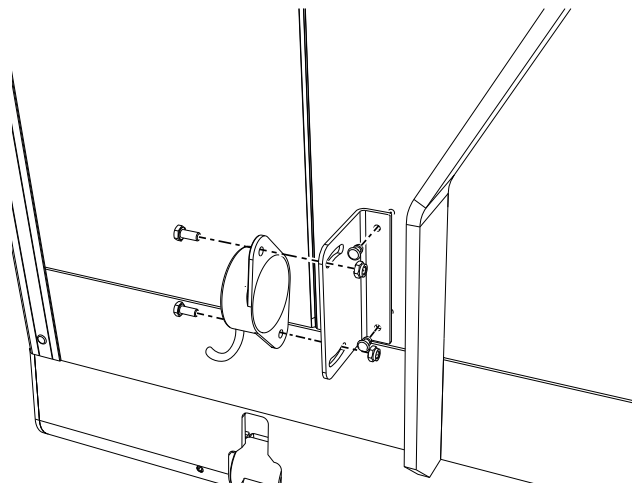

Figure 16. Mounting of bracket and angle sensor
If the lift is equipped with radio control, associated angle sensor must be mounted on the platform, see Fig 16. Use sensor bracket, art. no. 53937TL (Ordered separately).
2. Mount the bracket (Art. no. 53937TL) using the attached two pop rivets, see Fig 16.